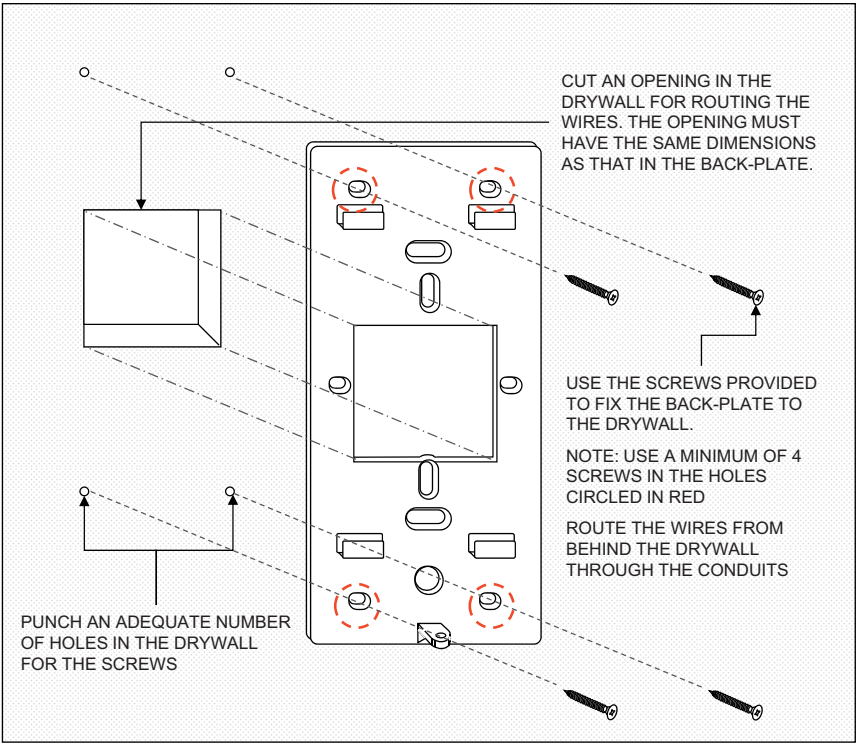

Fig. 4. Mounting reader back-plate on drywall
2. Cut the cable opening on the drywall using suitable tools and punch an adequate number of holes for the mounting screws. It is advisable to use at least four screws to mount the reader. Use the wall anchors for additional holding strength. See Fig.4.
3. Hold the back-plate in position on the drywall. Align the mounting screws with their holes and fasten the back-plate securely on the drywall using the screws. See Fig.4.